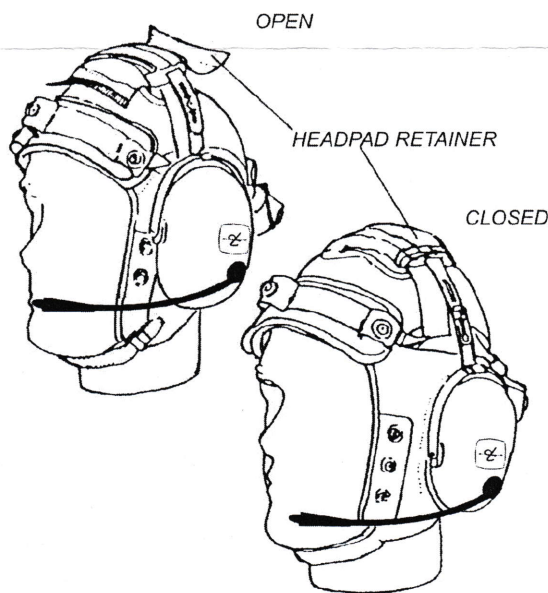

FIGURE 3
2. Separate hook and loop tape on headpad retainer, position headpad and join hook and loop tape. Headpad retainer should be loose around headpad (See Figure 3).